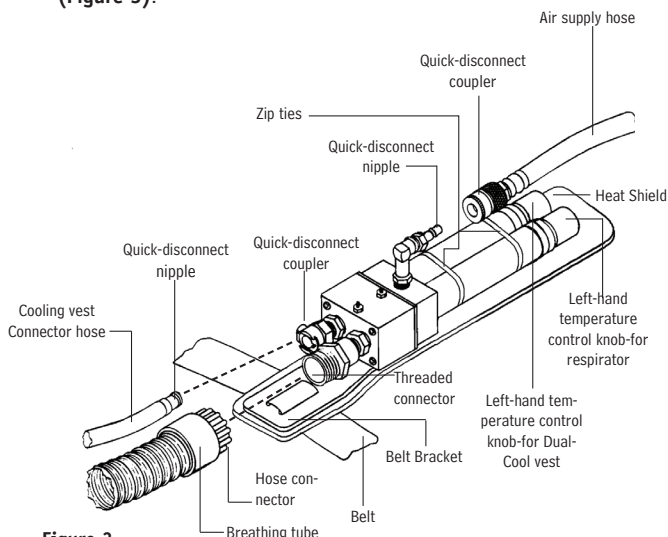

Figure 3
2. Use plastic zip ties (2 included) to secure the climate control to the heat shield. **(Figure 3)**
1. Screw the hose connector that is on the end of the breathing tube to threaded connector on Dual-Cool. Lace the belt through the slots in the belt bracket **(Figure 3)**.
4. Snap the quick-disconnect nipple found on the end of the cooling vest connector hose into the quick-disconnect coupler on the Dual-Cool **(Figure 3)**.
6. With the approved Bullard air supply hose connected to the breathing air source, and with air flowing into the hose, connect the quick-disconnect coupler on the air supply hose to the quick-disconnect nipple on the Dual-Cool **(Figure 3)**.
1. To obtain cooler air, turn the air temperature control knobs counterclockwise **(Figure 3)**. Maximum cooling is obtained when knobs are open completely and when there is maximum airflow out of the Dual-Cool tube's exhaust ports. To obtain air that is closer to ambient temperature, turn air temperature control knobs clockwise. If knobs are closed completely, your respirator will receive air that is essentially at ambient temperature.